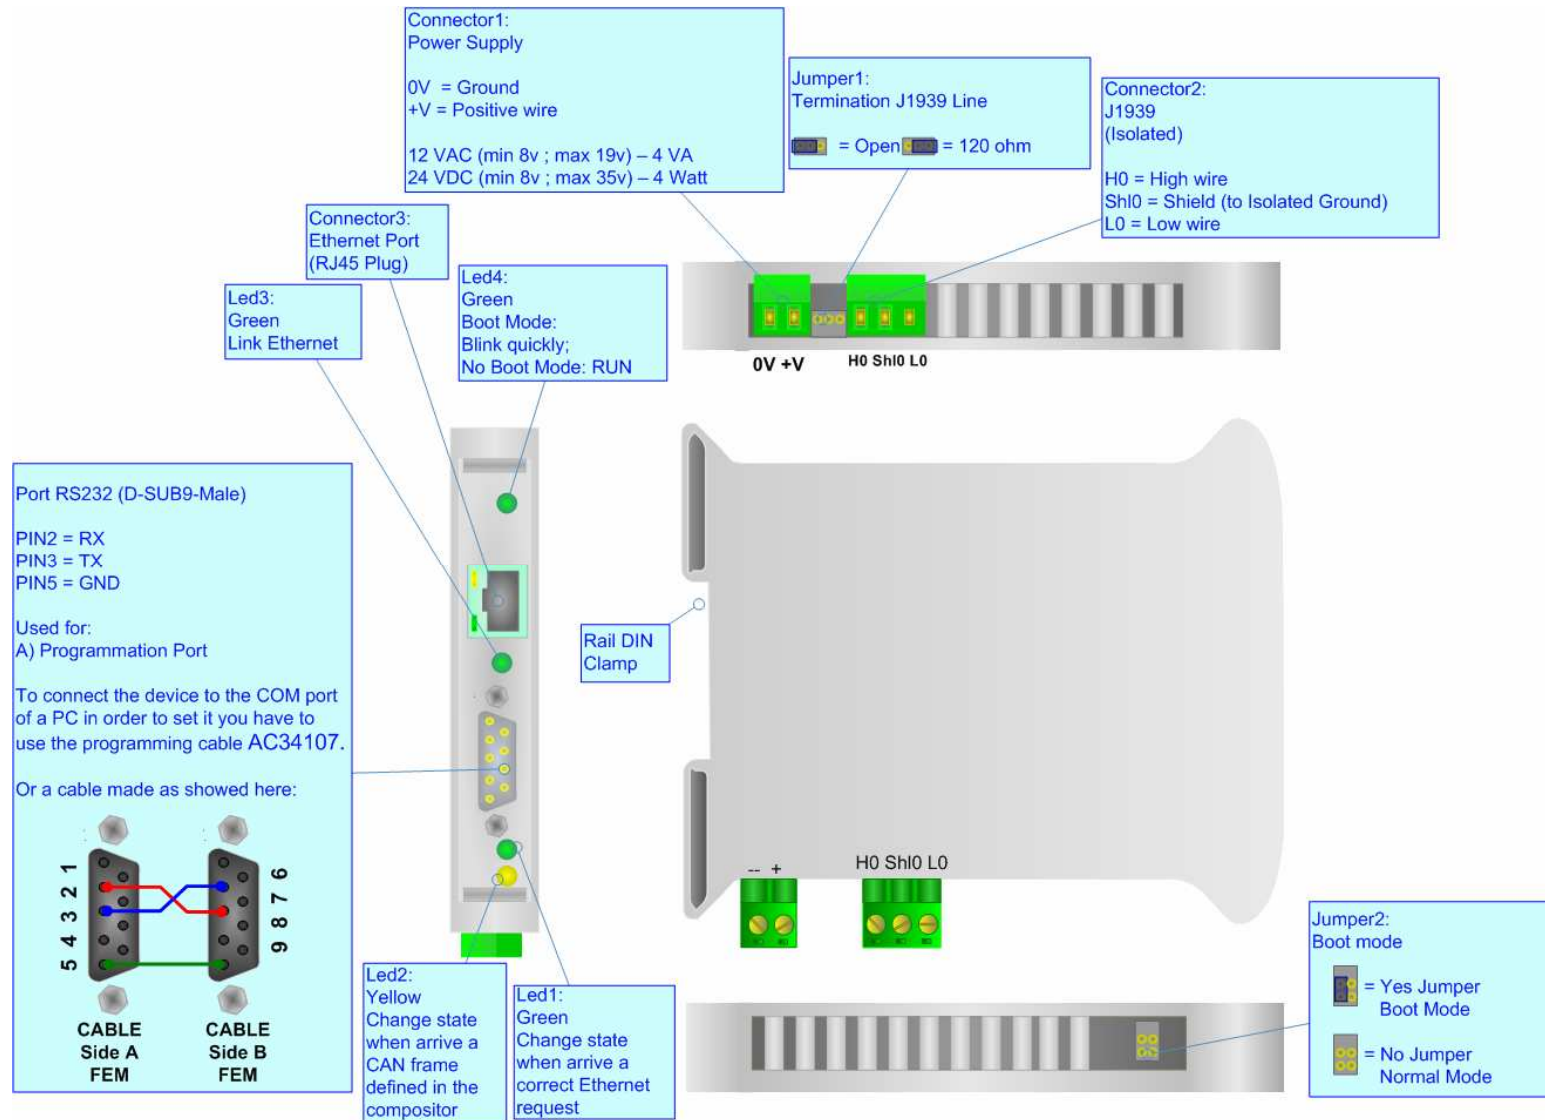

Figure 1: Connection scheme HD67213
- Insert the Boot Jumper (see the Fig. 1 for more info);
- Check the "BOOT Led". It must to blink quickly (See the Fig. 1 for more info);